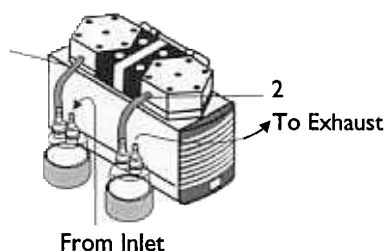

Figure 7: Tubing Connection SR
- Tubing of twin head pumps: see figure 7. When connecting single head pumps, study the information sheet that accompanies the accessories. Choose tube material which is resistant to the media being used.